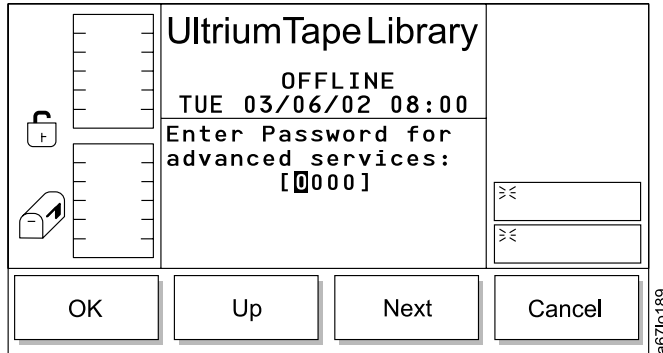

Figure 162. Enter Password Dialog
- If **Normal/Advanced** is selected, the Advanced service type displays. Select **OK** to go to Enter Password Dialog (see Figure 162 on page 134).
When **Advanced** is selected from the Start Dialog, the Enter Password Dialog displays (see Figure 162). This option is used by service personnel to reenter the library's serial number when the main controller board is replaced. To obtain the password contact your Service Representative.